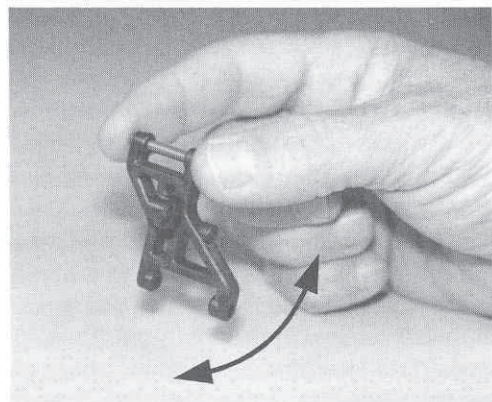
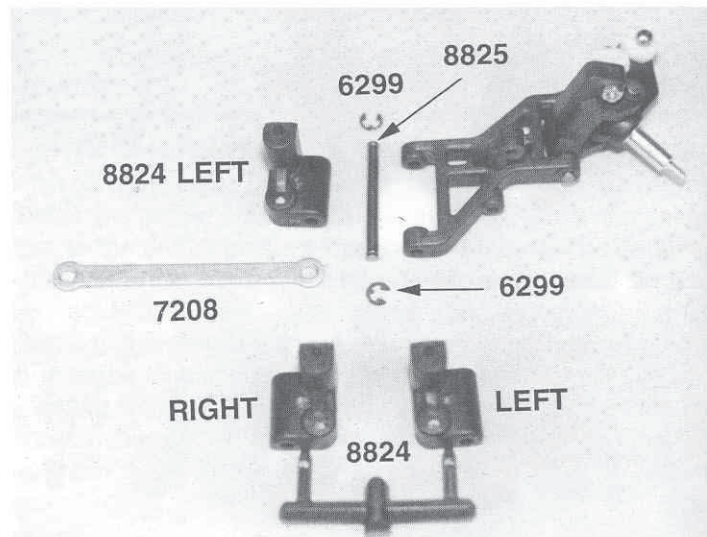
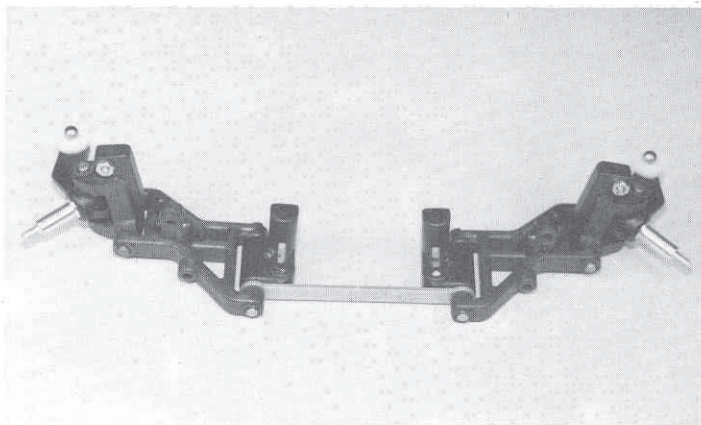

Fig. 12
Fig. 14
Fig. 15
□ **Fig. 12** 1) Now we need the two remaining #6223 steel pins (heat treated) and the two #8825 steel pins. We will be using these pins as our front outer and inner hinge pins. 2) Before we can install them we want to check the pin fit in the suspension arm holes. The #6223 pins will be the outer hinge pins, so check their fit in the outer holes of the suspension arms. Slide the pin through the arm holes. 3) Now hold the pin on the ends and lift the other end of the suspension arm until it is level, as shown in fig. 12. When you let go of the arm it should drop and swing freely on the hinge pin. 4) Now use the #8825 hinge pins and check their fit on the inner arm holes.
□ **Fig. 14 & 15** 1) In the same bag #8-1 you will find the #8824 front bulkhead blocks, the #7208 aluminum front bulkhead support, and the last four #6299 1/8" E-clips (it's okay if you have extras). There is both a left and right bulkhead block. 2) Line up the left bulkhead with the left arm inner mounting holes. 3) Now do the same for the right bulkhead and arm. 4) The #7208 front end brace will go in front of the bulkhead but behind both front arm inner mounting holes. Place the block between the inner mounting holes of the arm. 5) Now slide the #8825 front inner hinge pins (we took these out in fig. 12) through the back arm hole, the bulkhead, the aluminum front brace, and out through the front arm mounting hole. 6) Now center the hinge pins and install a E-clip onto each end of each pin. Fig. 15 shows both arms and bulkheads assembled.